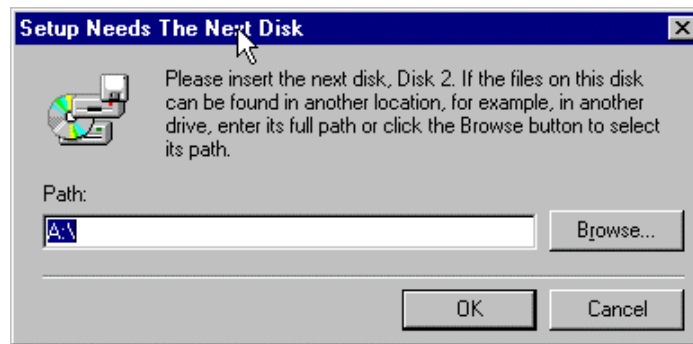

Figure 19 – Insert Disk 2
- 15 Insert DISKS 2 and 3 into the floppy drive when prompted (this will not apply if you are using the CD-ROM). A Browse feature will allow you to choose a different destination directory for each disk, or you can click **OK** to continue installation in the same directory. See Figures 19 and 20.